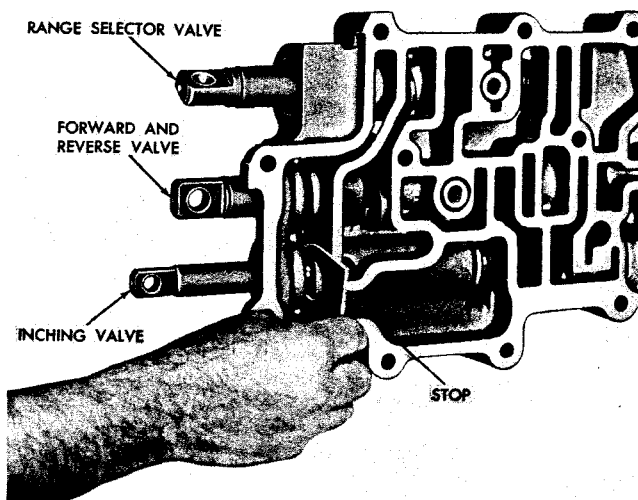

Fig. 6-3. Removing (or installing) inching valve stop
a. Disassembly (item 6, B, foldout 15)
(1) Remove the inching valve stop from the valve body (fig. 6-3).